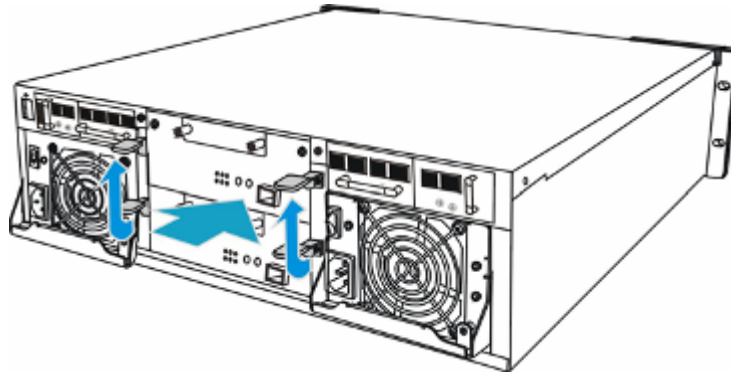

Figure 5-4: Installing the Controller Module
Step 2. Install the replacement controller. Make sure the levers at the back of the controller are at their lowest positions. Align the controller module with the controller module bay. Gently slide the controller module in. (See *Figure 5-4*)